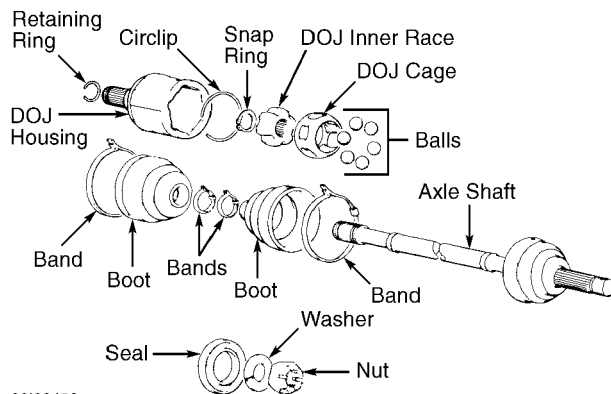

Fig. 2: Exploded View of DOJ Assembly
1) Note type of boot and location prior to removal. Refer to BAND & BOOT IDENTIFICATION. Remove bands and boot from DOJ housing. See Fig. 2. Remove circlip and remove DOJ housing.